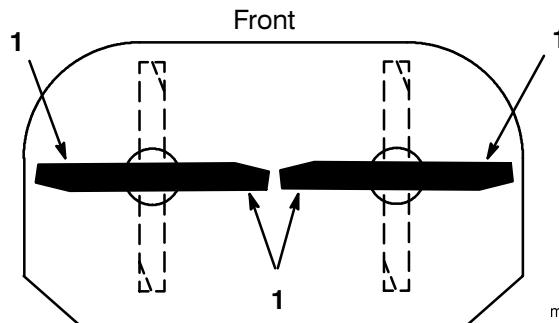

Figure 25
**IMPORTANT: The blades are different for each side and rotate in opposite directions forcing clippings to the center rear of the mower. Align cutting edges properly when installing (Fig. 25).**